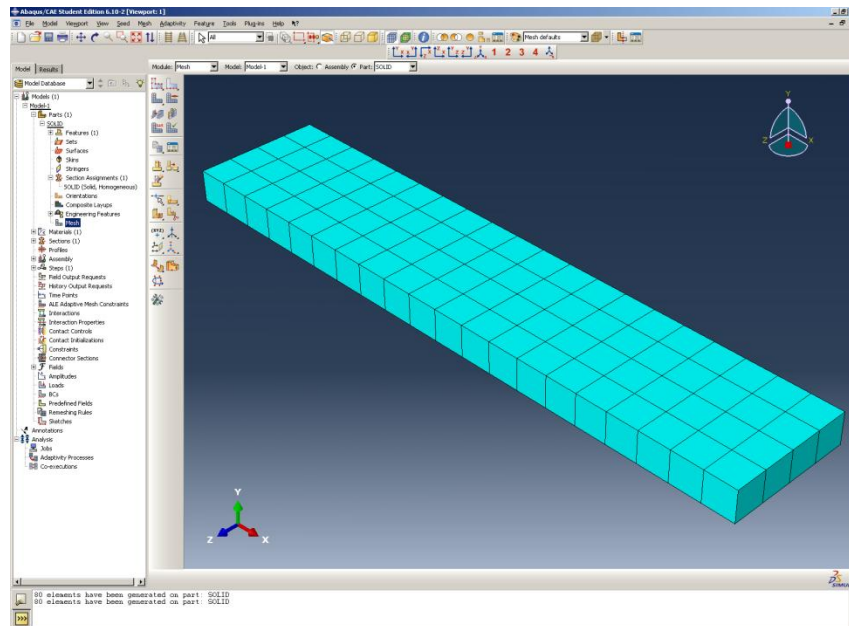

Figure 15. Final Meshed Geometry
- If this procedure was done correctly, the geometry will turn blue and a visible mesh will appear (Figure 15).